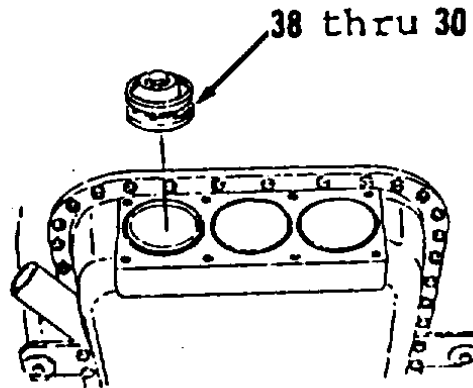

Figure 10-153.
6. Install items 38 thru 30 as an assembly (Figure 10-153).